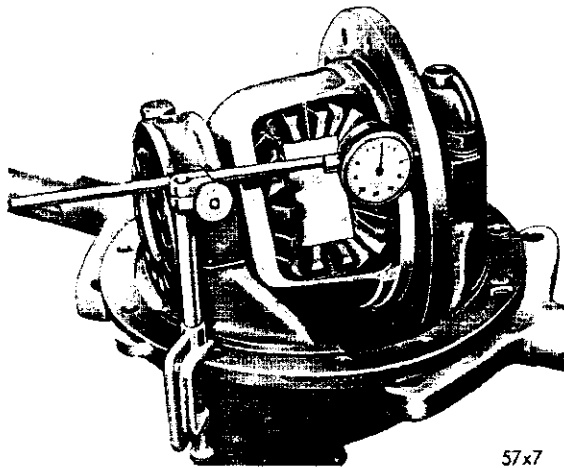

Fig. 13—Measuring Drive Gear Mounting Flange Runout
(3) If the ring gear runout was found to be more than .005 inch (Paragraph "Carrier Disassembly" (2)) test the case as follows: Install the differential with bearing cups in the carrier.
(4) Install the bearing caps, attaching bolts and bearing adjusters. Snug the bearing cap bolts down lightly and screw in both adjusters with spanner wrench Tool C-406A.
(5) Tighten the support cap bolts and adjusters sufficiently to prevent any end play in the bearings.
(6) Attach a dial indicator Tool C-430 or C-3339 to the differential carrier flange so the pointer of the indicator squarely contacts the ring gear surface of the differential case flange between the outer edge of the flange and the ring gear bolt holes (Fig. 13).
(7) Rotate the differential several complete revolutions while noting the total indicator reading.